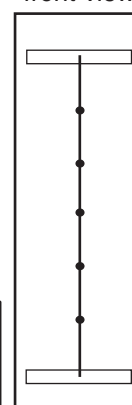

Fig. 1
1. Tie five knots, equally spaced, for climbing grips. (Fig. 1)